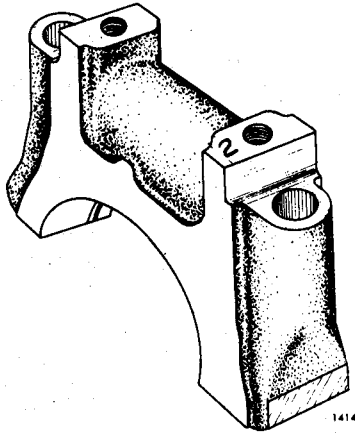

Fig. 9. Main Bearing Cap Marking
**NOTE:** The main bearing caps are bored in position and stamped 1, 2, 3, etc. (Fig. 9). They must be installed in their original positions with the marked side of each cap toward the blower side of the cylinder block.